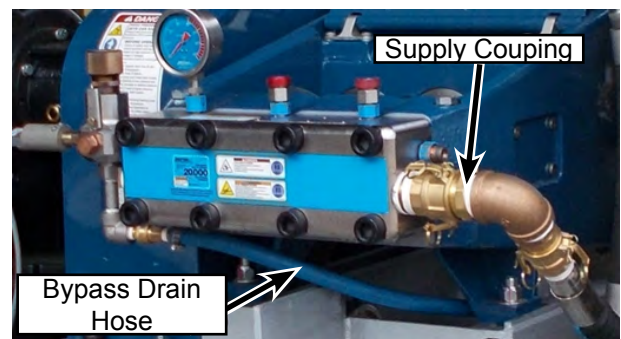

Figure 16: Line Removal.
4. Disconnect the bypass drain hose and the supply coupling from the manifold. (Figure 16)